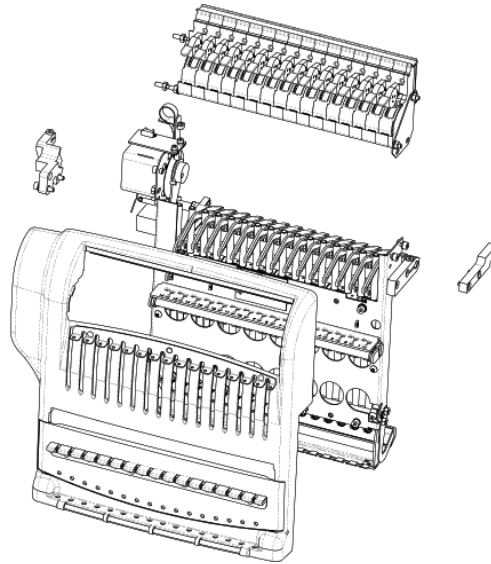

Figure 1 - Needlecase Assembly
5. Connect the harnesses to the two PCB's and the stepper motor (Figure 1).